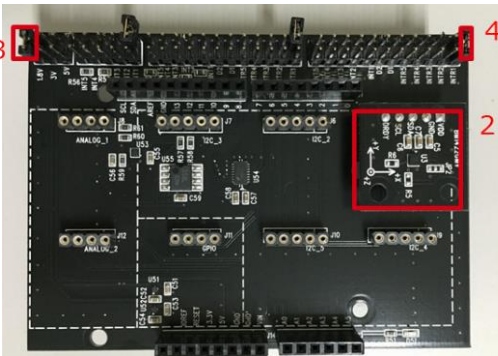

Figure 3. Connection between BM1422AGMV-EVK-001 and the SensorShield
2. Connect BM1422AGMV-EVK-001 to the socket of I2C_1 on the SensorShield (Figure 3)
- Set Voltage of the SensorShield to 1.8V or 3.0V (Figure 3)
- Set Interrupt of the SensorShield to INTR1 (Figure 3)